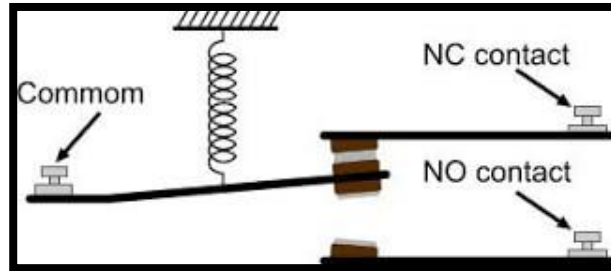
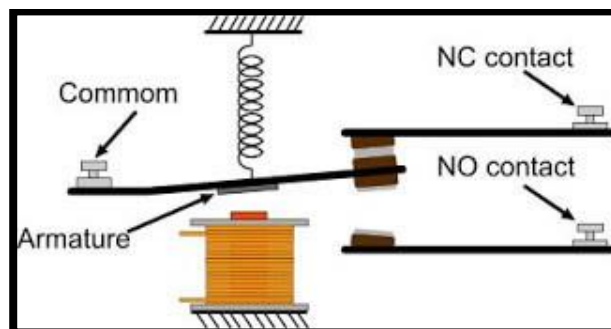

Figure 2.8: Position of common contact
Figure 2.9: The relay operation
3. Refer Figure 2.8 and Figure 2.9, please note that F force is applied to the COMMON terminal once, and no force is applied the other time. Well, this is actually wrong.